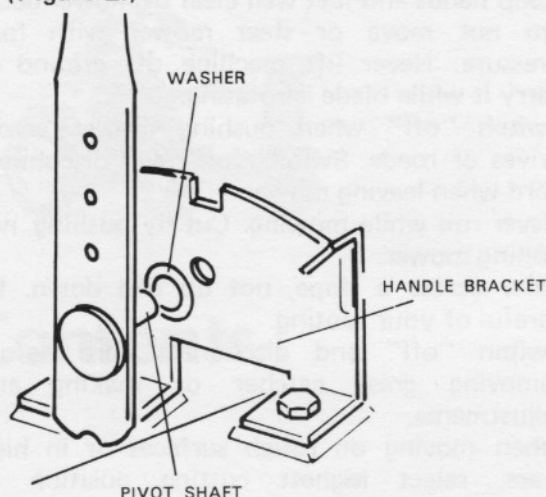

Figure 2
- Holding the handle upright, slide the pivot-shaft into the hole in the handle bracket. (Figure 2.)
- Return the lever-pin to the middle hole as shown in Figure 2 for regular swing-over action.